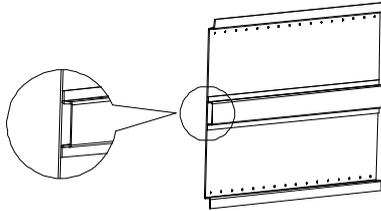

Figure 4-4 Weld a transverse reinforcement beam on the back of the backplane.
- ◇ The backplate can be reinforced if necessary. It is recommended to weld a transverse reinforcement beam on the back of the backplate (as shown in Figure 4-4). This can significantly improve the load-bearing capacity of the backplate and enhance the overall structural stability.